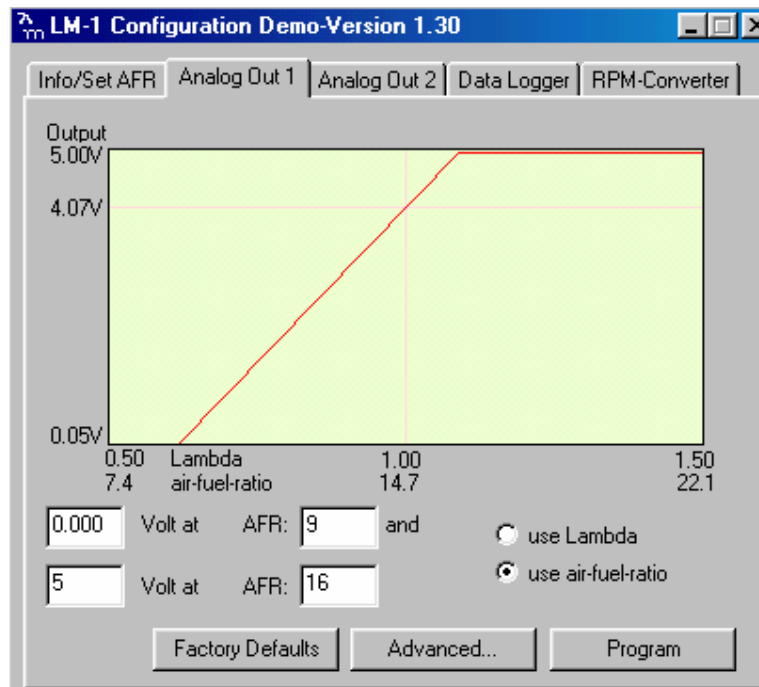

Figure 3. LM Manager Analog Output Configuration Tab
3. Open the LM Programmer. The window, shown in Figure 3, should be displayed.
The screen should look like Figure 3 when you are finished